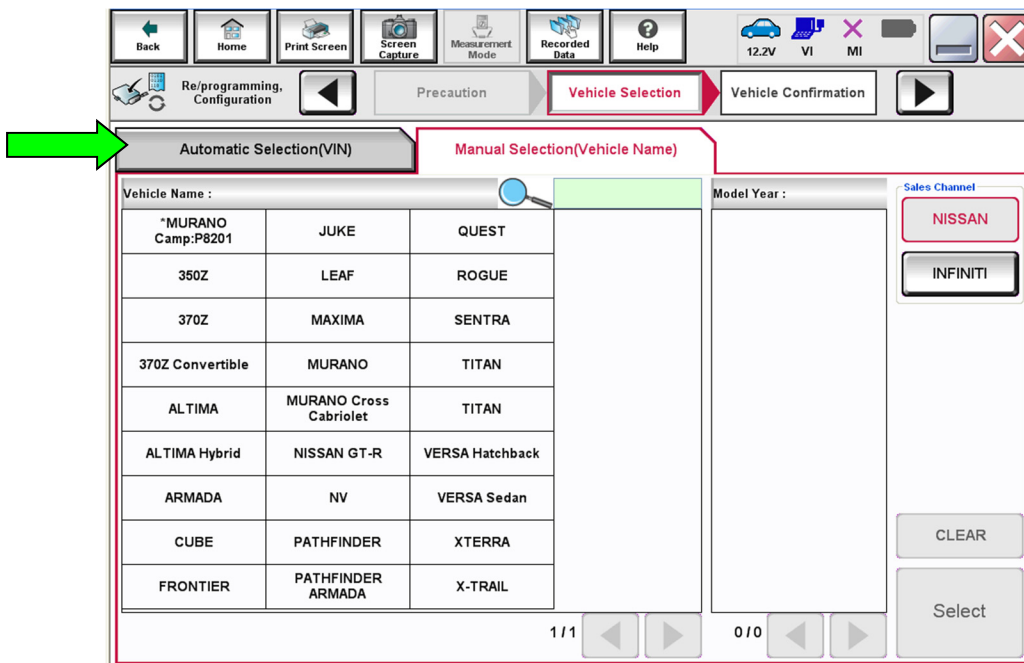

Figure 4
15. If the screen in Figure 4 displays, select **Automatic Selection(VIN)**.
- If the screen in Figure 4 does not display, skip to step 16.